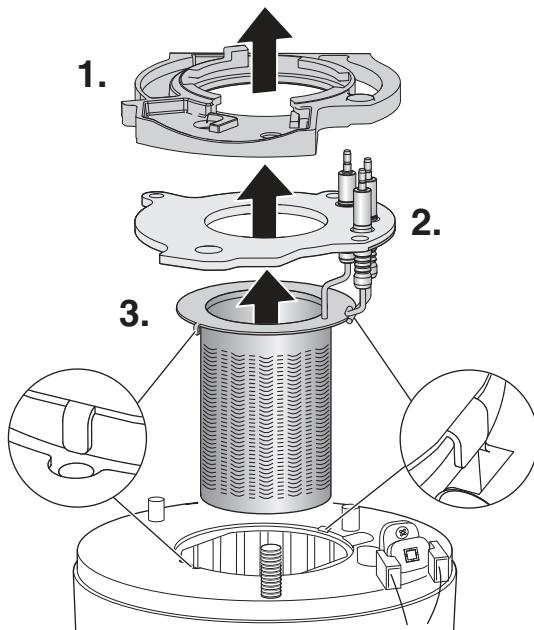

Fig. 83 Electrode assembly and burner
- Refer to figure 83 and disconnect spark electrodes and flame sensor connection.
- Ensure that burner tabs, as shown in figure 83, fit correctly their respective locations.